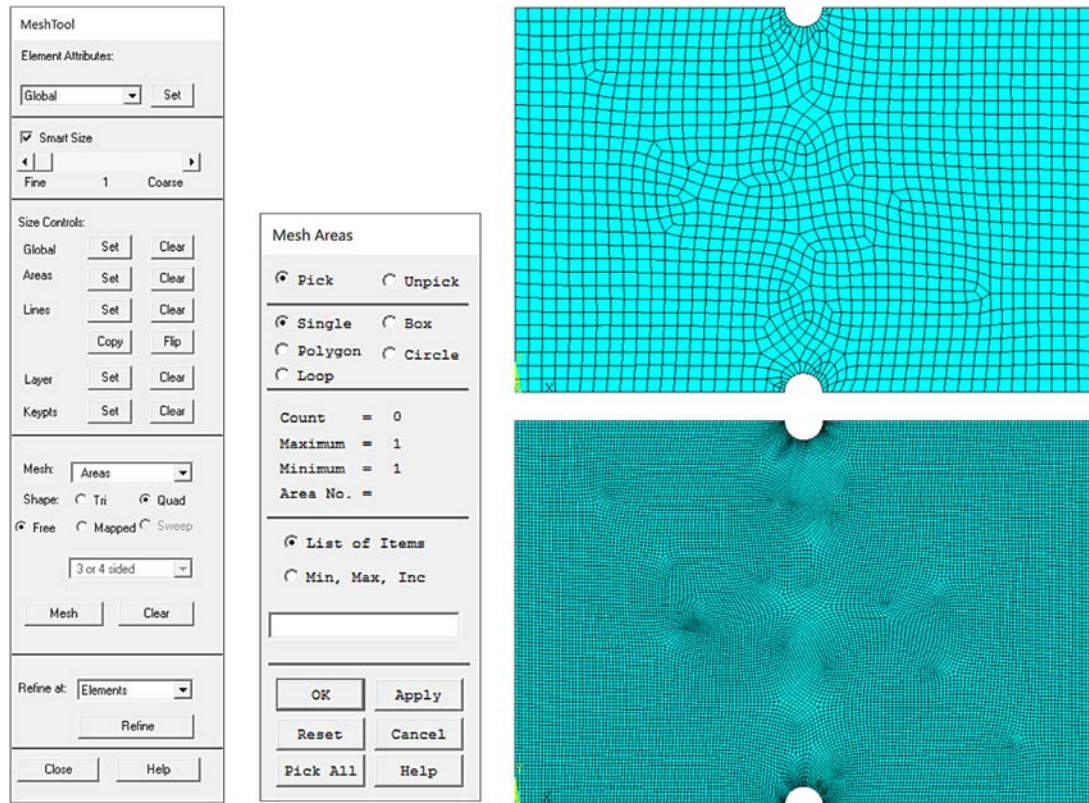

Figure 2-1-10 Mesh Tool (left), Mesh Areas Dialog Box (center), and Resulting Meshes (right).
- Check the “Smart Size” box in the Mesh Tool dialog box (Figure 2-1-10, left)
- Click the “Pick All” button in the Mesh Areas dialog box (Figure 2-1-10, center)
The initial mesh is shown in Figure 2-1-10 (top right).
- Confirm that the “Refine at” option in the Mesh Tool dialog box is set to “Elements” (Figure 2-1-10, left)
The final mesh is shown in Figure 2-1-10 (bottom right).